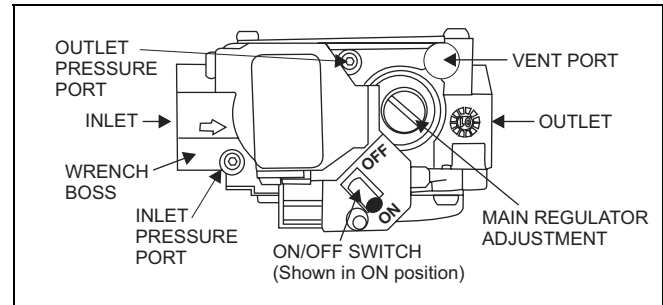

FIGURE 3 Gas Valve
5. Refer to Figure 3 for location of pressure regulator adjustment cap and adjustment screw on main gas valve.